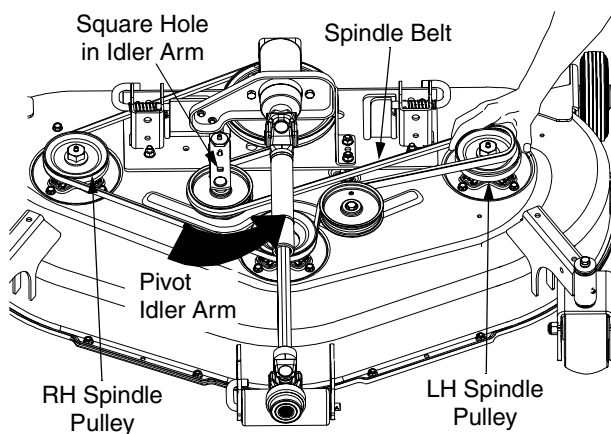

Figure 50
3. Insert a 3/8" drive ratchet or breaker bar into the square hole of the idler arm (Refer to Figure 50).
4. Using the ratchet (breaker bar) for leverage, pivot the idler arm toward the left side of the deck to loosen tension on the belt: then roll the belt off either the LH or RH spindle pulley (See Figure 50).
4. After making certain the belt is properly engaged in each pulley, insert the 3/8" drive ratchet (breaker bar) into the idler arm and pivot the movable flat idler pulley toward the left side of the deck to allow the spindle belt to be rolled onto the left hand spindle pulley. Refer to Figure 50.